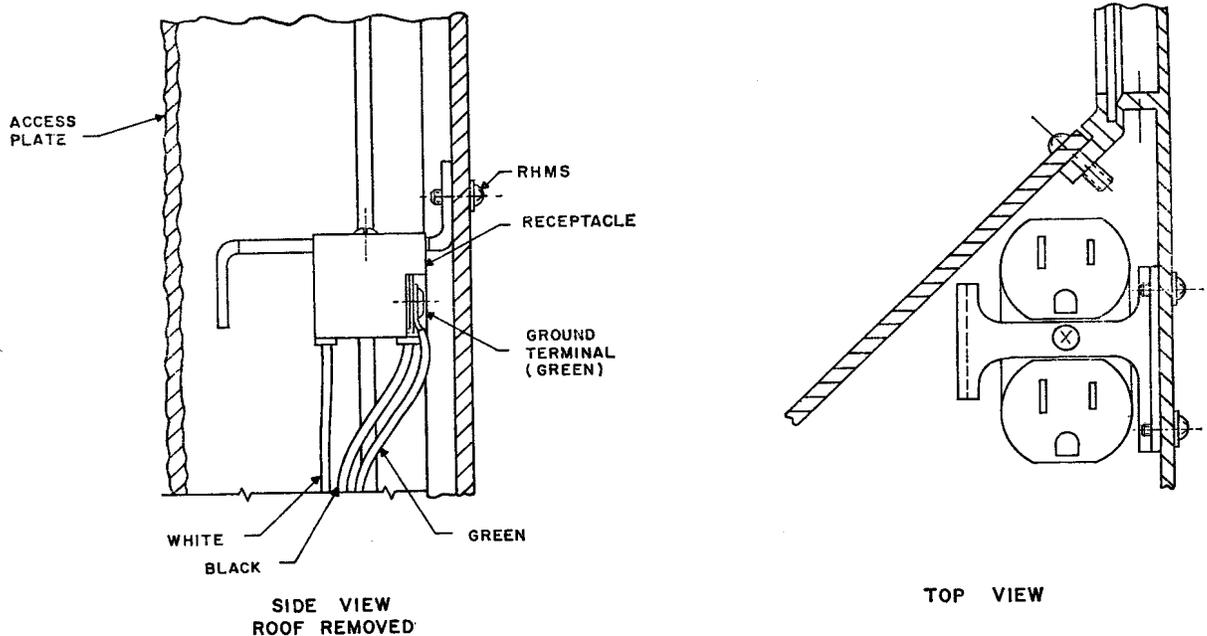

Fig. 2 — Location and Wiring of Receptacle
3. Connect wiring to new receptacle and fasten in place as shown in Fig. 2.